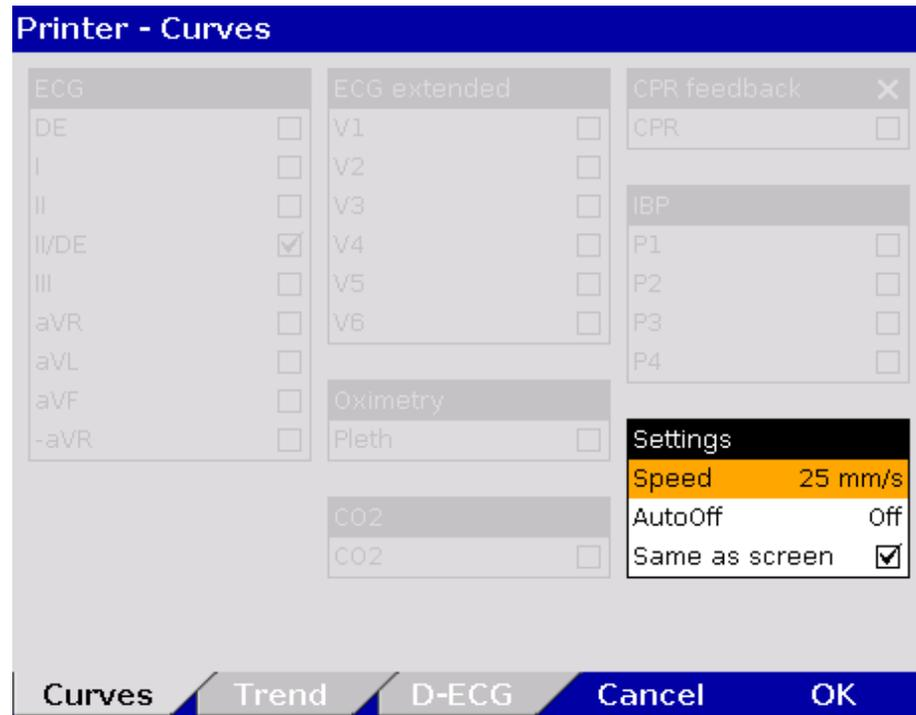

Fig. 7-6 Printer setting "Same as screen"
2. If in the group "Settings" the checkbox "Same as screen" is ticked, the curves currently displayed on the screen are printed. The remaining areas of the configuration dialogue are greyed out (see Fig. 7-6).